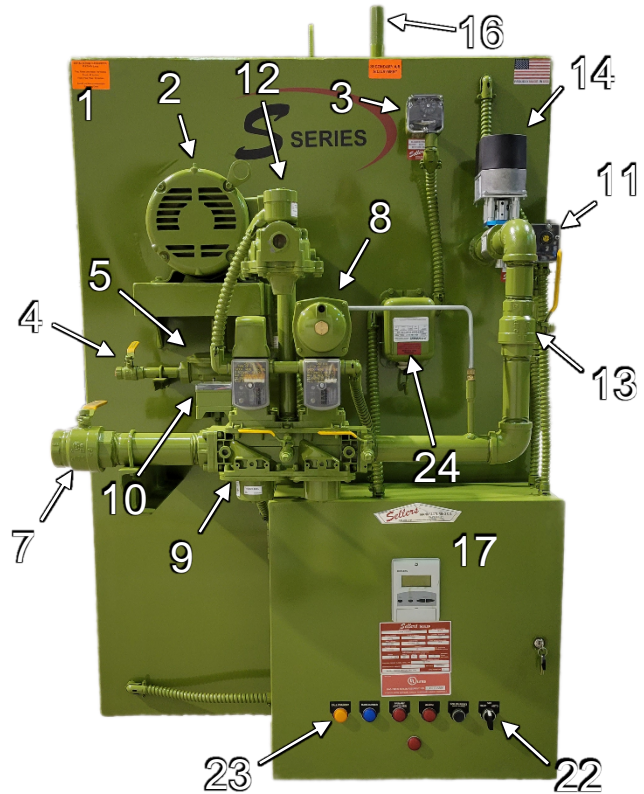

Figure 2.1 Front View
9. Main Safety Shutoff Valves – Electric valves (motor and/or solenoid) that control gas supply to the main burner in response to the operating sequence of the controls, including the flame safeguard. They can also be integrated into the gas pressure regulator as shown in Figure 2.1 (item #8).